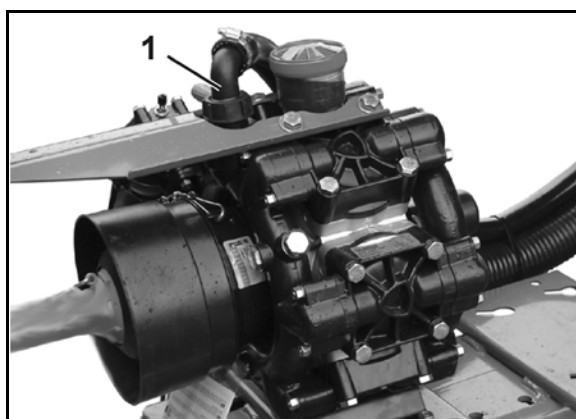

Fig. 155
10. Remove the pressure hose (Fig. 155/1) for the pump so that any remaining water can flow out of the pressure hose and VARIO switch tap on pressure side **B**.